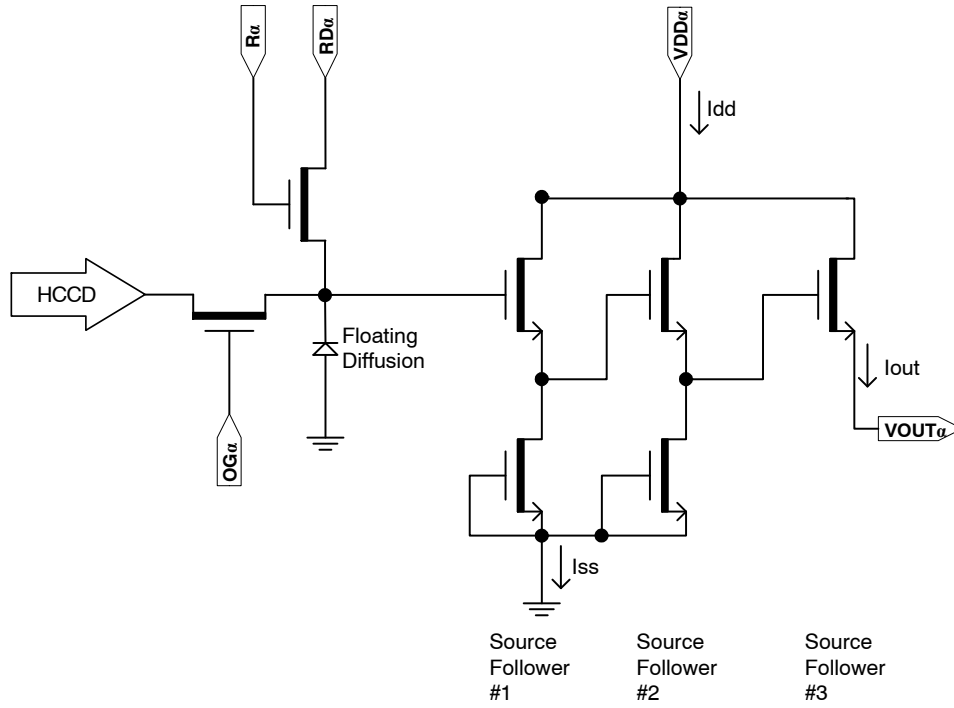

Figure 18. Output Amplifier
- The maximum DC current is for one output. $I_{dd} = I_{out} + I_{ss}$. See Figure 18.